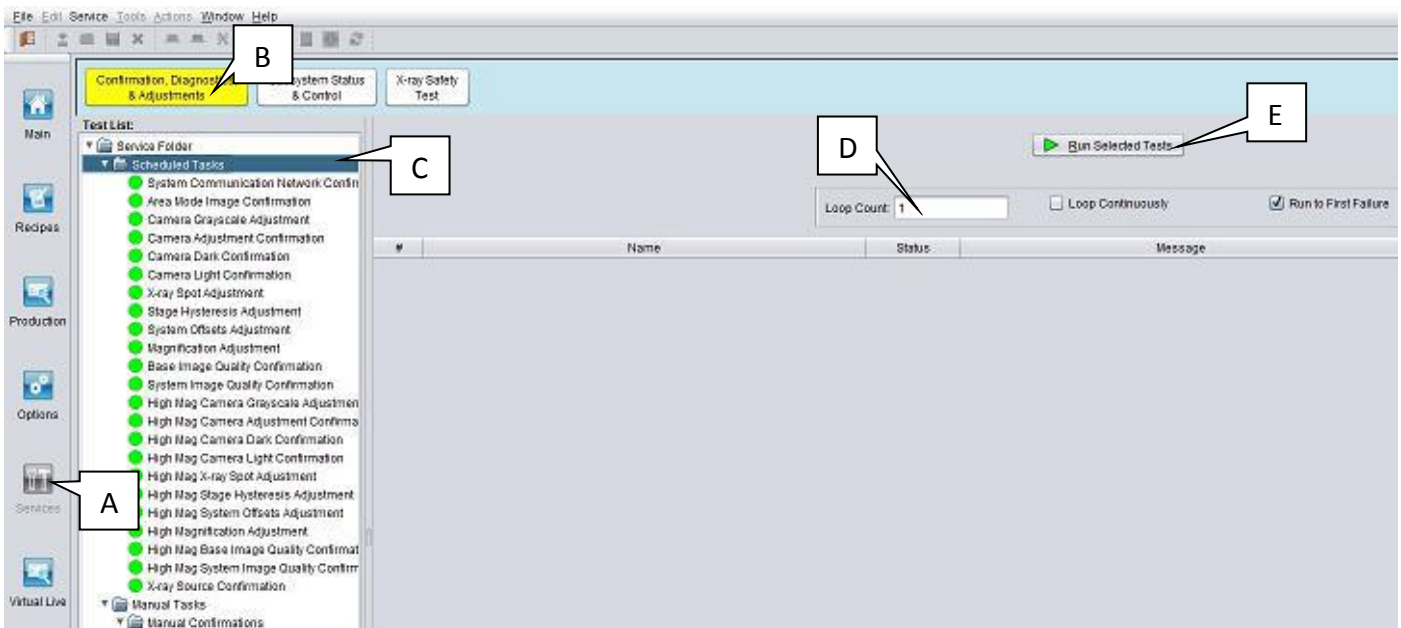

Figure 2
4. Perform 1 loop full CDnA task to obtain latest log file. Go to Confirmation, Diagnostic and Adjustment tab as Figure 2.